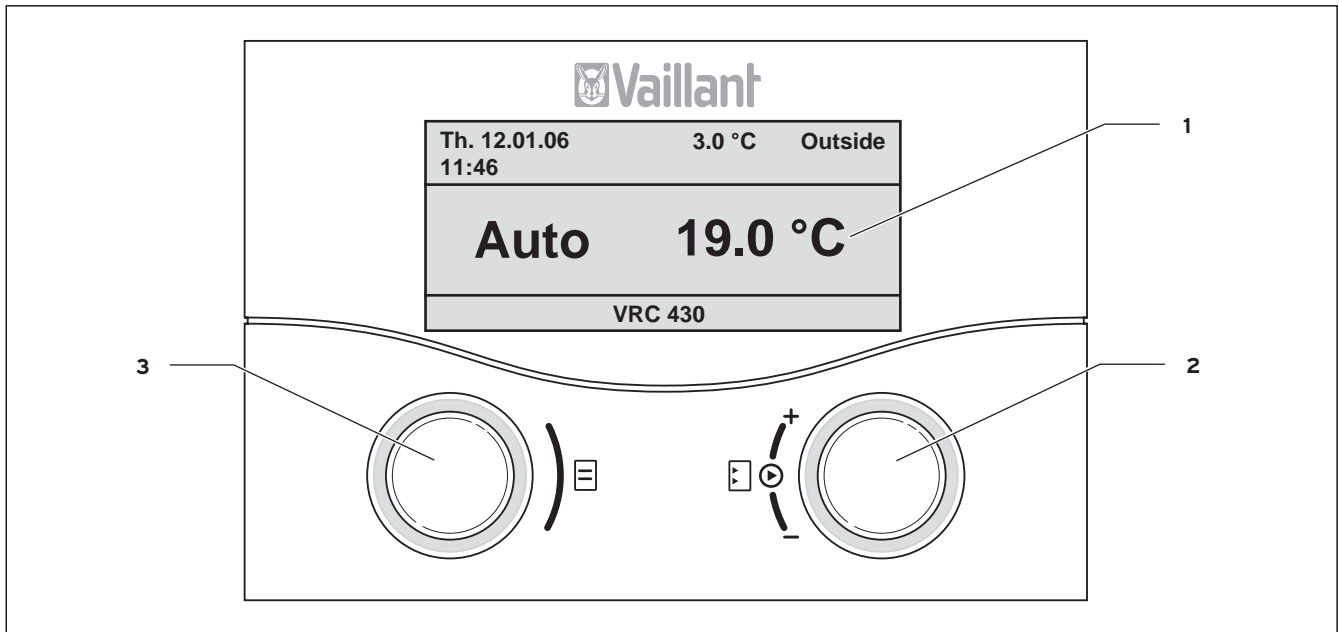

Fig. 4.1 Overview operating and display front
Fig. 4.1 shows the default display. The default display shows the following information:
- Default display (Fig. 4.1)
The two dials (Fig. 4.1 Items 2 and 3) function according to the Vaillant "turn and click" principle.